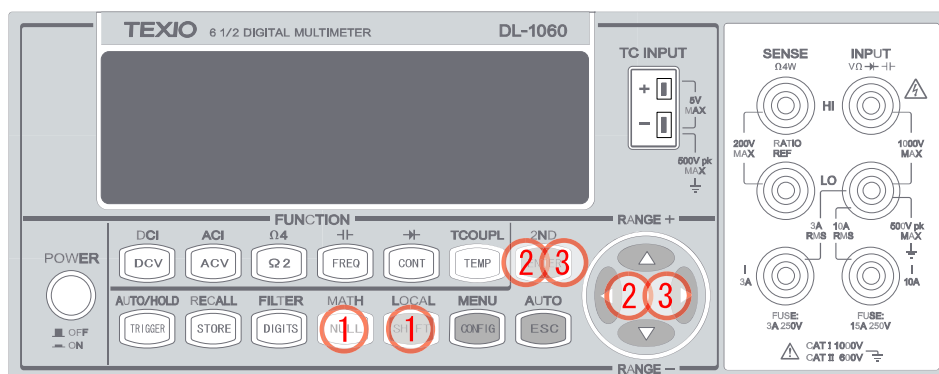

Figure 3-23
1. Press SHIFT + NULL to enter MATH submenu as shown in **Figure 3-23**.